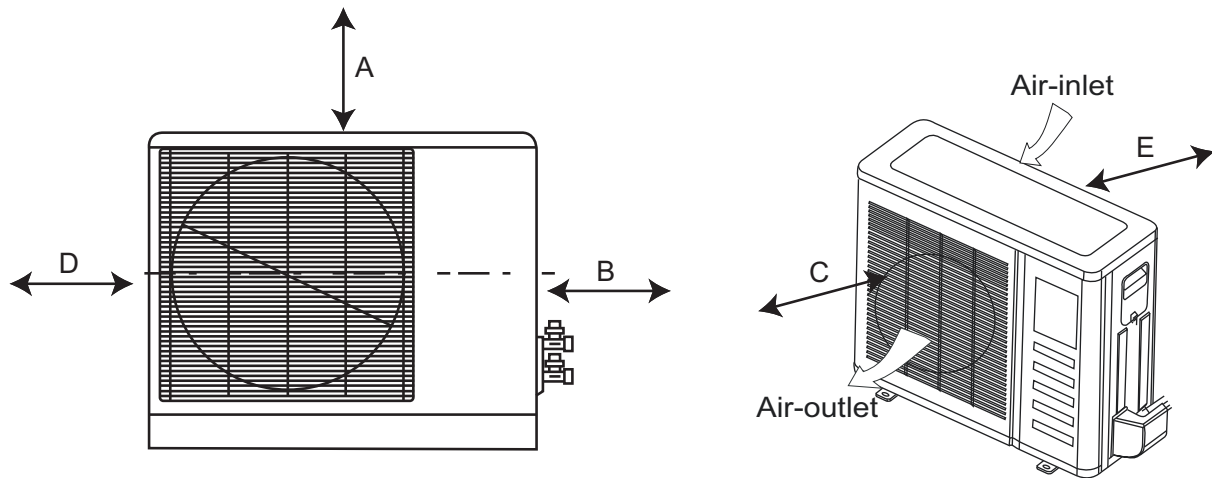

Fig. 7 — Clearances
- A location with appropriate clearances as outlined (see Fig. 7 — on page 11).